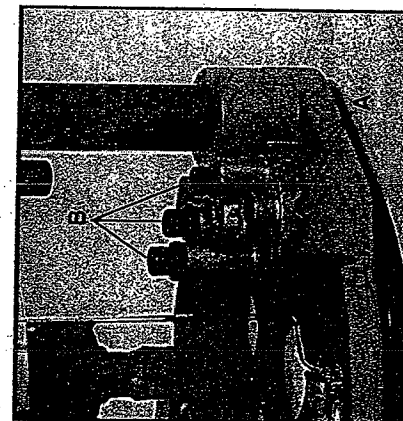

Fig. 11
Normally the deepest desired cut is set with the depth rod resting on the shortest turret stop (A) Fig. 11. The other two fixed stops then provide reduced cutting depths of $\frac{1}{4}$ " and $\frac{1}{2}$ " respectively. The three adjustable stops may be adjusted to any desired height. Any combination of fixed and/or adjustable stops may be utilized to achieve the desired depths required for a particular job.